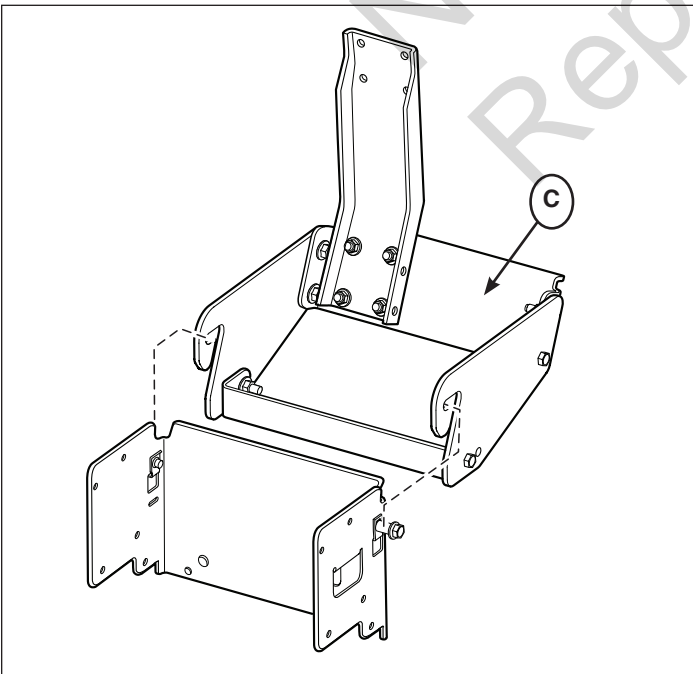

Figure 2
3. Put the hitch assembly (**C**, Figure 2) onto the shoulder bolts.